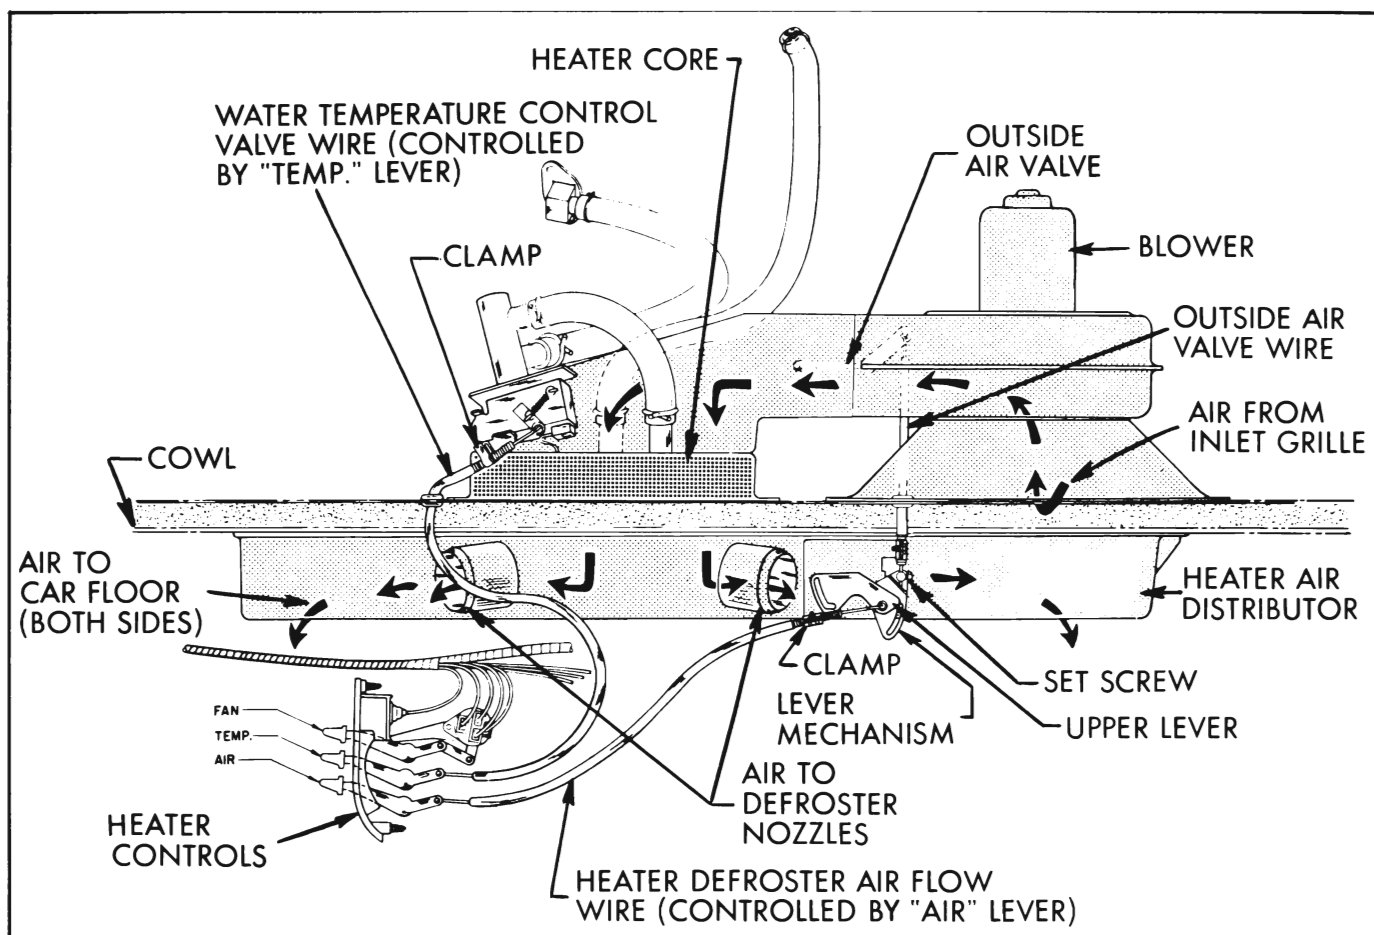

Figure 11-12—Heater Air Flow and Control Wires
Air flow through the heater system when the outside air valve is open, is through the inlet grille forward of the windshield reveal molding, through air inlet and blower assembly, into heater core case and through core into heater air distributor. See Figure 11-12. The distributor directs air to the floor of car and to the defroster nozzles, the amount of each is controlled by position of the floor outlet valves.
shut-off valves in the heater air distributor by means of two bowden wires and the lever mechanism on distributor. See Figure 11-12. The "Air" control lever has a center detent position. In the full up position the outside air valve is closed. When the lever is moved downward to the detent "on" position, the outside air valve is opened. The valves in the distributor are open as the moving of the "Air" lever from off to the detent has no effect on their position. The center detent position allows maximum air flow to the car floor. Moving the "Air" lever farther down from this detent closes the valves in the distributor and increases the air flow to the defroster nozzles. Maximum air flow for defrosting is obtained when lever is fully down.
1. Loosen clamp that retains the "Air" lever control wire cable and the set screw that retains the outside air wire to lever mechanism on heater air distributor. See Figure 11-12.
1. Loosen clamp that retains "Temp" control wire to heater core case. See Figure 11-12.